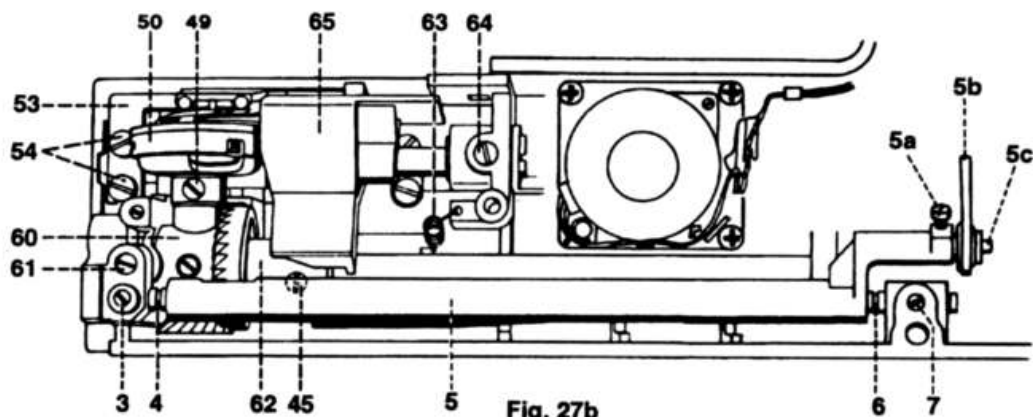

Fig. 27b
- Disconnect pull-spring 63 (fig. 27b).
- Loosen screw 45 of the lifting eccentric by approx. 3 turns (fig. 27b).
- Remove lifting eccentric 62 from the hook driving shaft (fig. 27b).